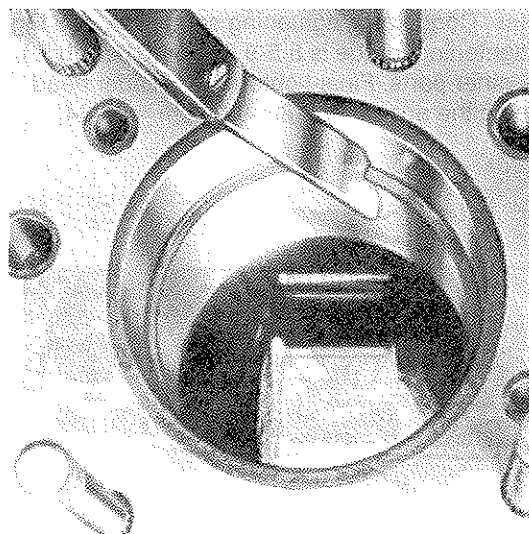

Fig. C3. Measuring the piston ring gap
2. Measure the ring gap with a feeler gauge. The gap should be 0.40-0.55 mm (0.016-0.022"). See Fig C3. If necessary, the gap can be increased with the help of a special file.